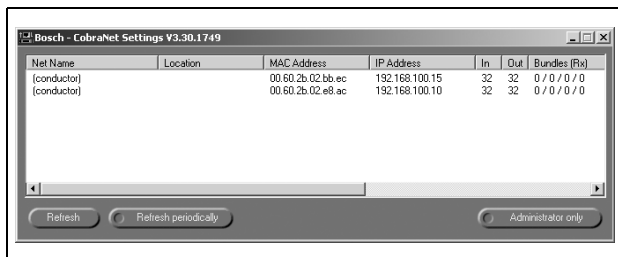
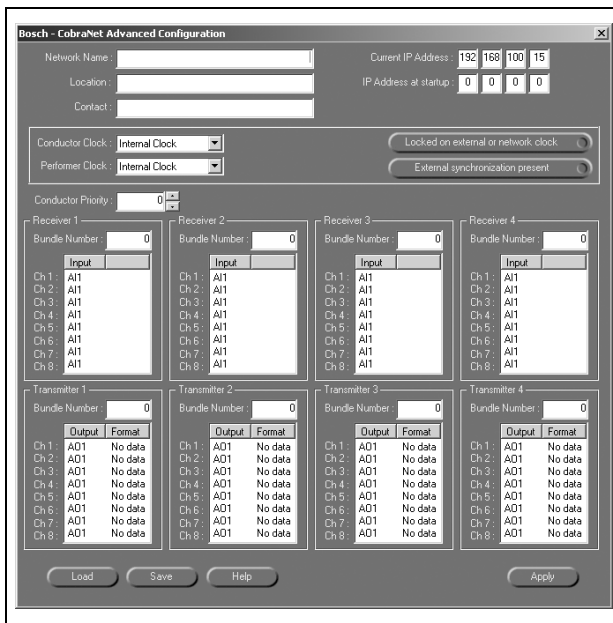

figure 13.9: CobraNet Settings window
figure 13.10: Advanced configuration window
Make sure that the PC in which you installed the CNConfig is connected to the CobraNet network. On the PC, go to Start > Programs > Bosch > CNConfig. The monitor of the PC shows the CobraNet Settings window (refer to figure 13.9 for an example).
The CobraNet Settings window (refer to figure 13.9) shows the CobraNet devices on the CobraNet network and their CobraNet parameters.
To change the values of more than one parameter at the same time, use the Advanced configuration window (refer to figure 13.10).
With the Advanced Configuration window (refer to figure 13.10), you can change the values of the CobraNet parameters of the CobraNet devices. To open the Advanced Configuration window, double-click on the CobraNet device in the CobraNet Settings window (refer to figure 13.9).
- Receive 4 bundles from the CobraNet network (receiver bundles). Refer to the Receiver blocks in figure 13.10.
- Send 4 bundles to the CobraNet network (transmitter bundles). Refer to the Transmitter blocks in figure 13.10.
- 1 Go to the Advanced Configuration window (refer to figure 13.10) of CNConfig.
- Go to the Advanced Configuration window (refer to figure 13.10) of CNConfig.